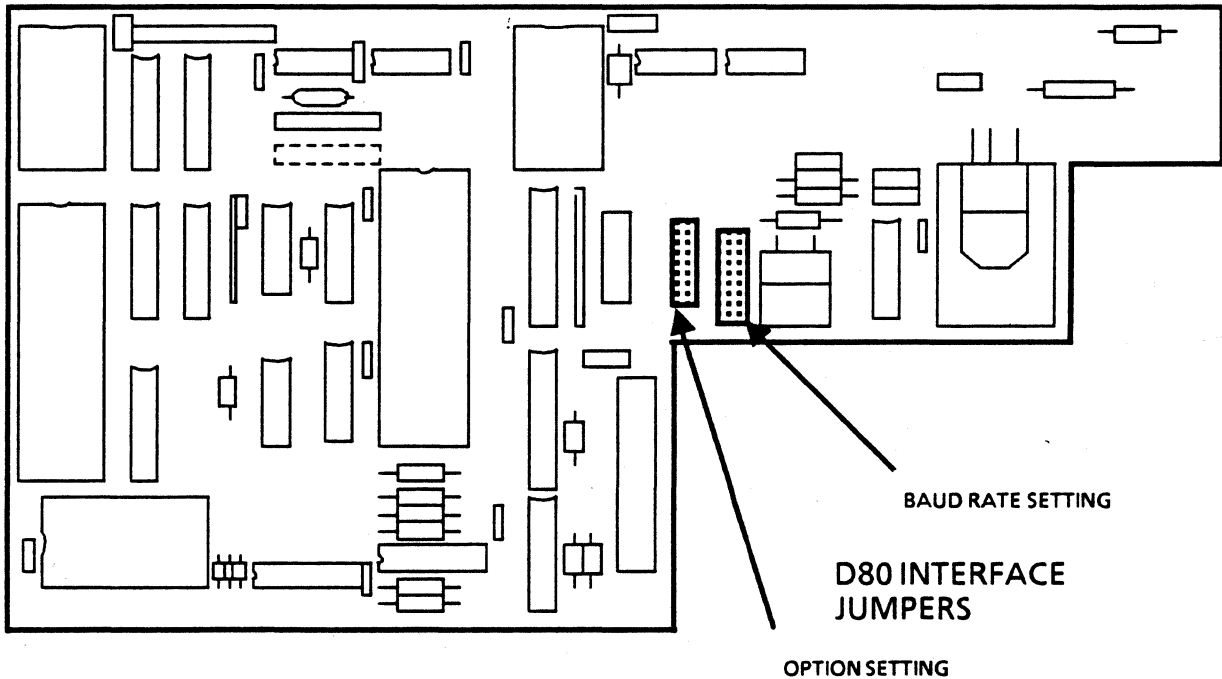

Figure 1
4. Carefully remove the large 40 pin integrated circuit (IC4) from its socket. (See Figure 1), and insert it into the vacant socket on the D80 Interface board (location marked U16). Be sure that you install the IC with the small notch on one end oriented in the same direction as the notch on the socket.
4. Check the position of the jumper which controls the Baud Rate (Fig. 1). The proper setting for use with an 820 is 1200 Baud, however if the unit is set for another Baud Rate to match the customers needs it should be left there. Later on in these instructions you will be told how to match the 820 to the Electronic Compact, at this time simply make a note of the Baud Rate the Electronic Compact is set for.